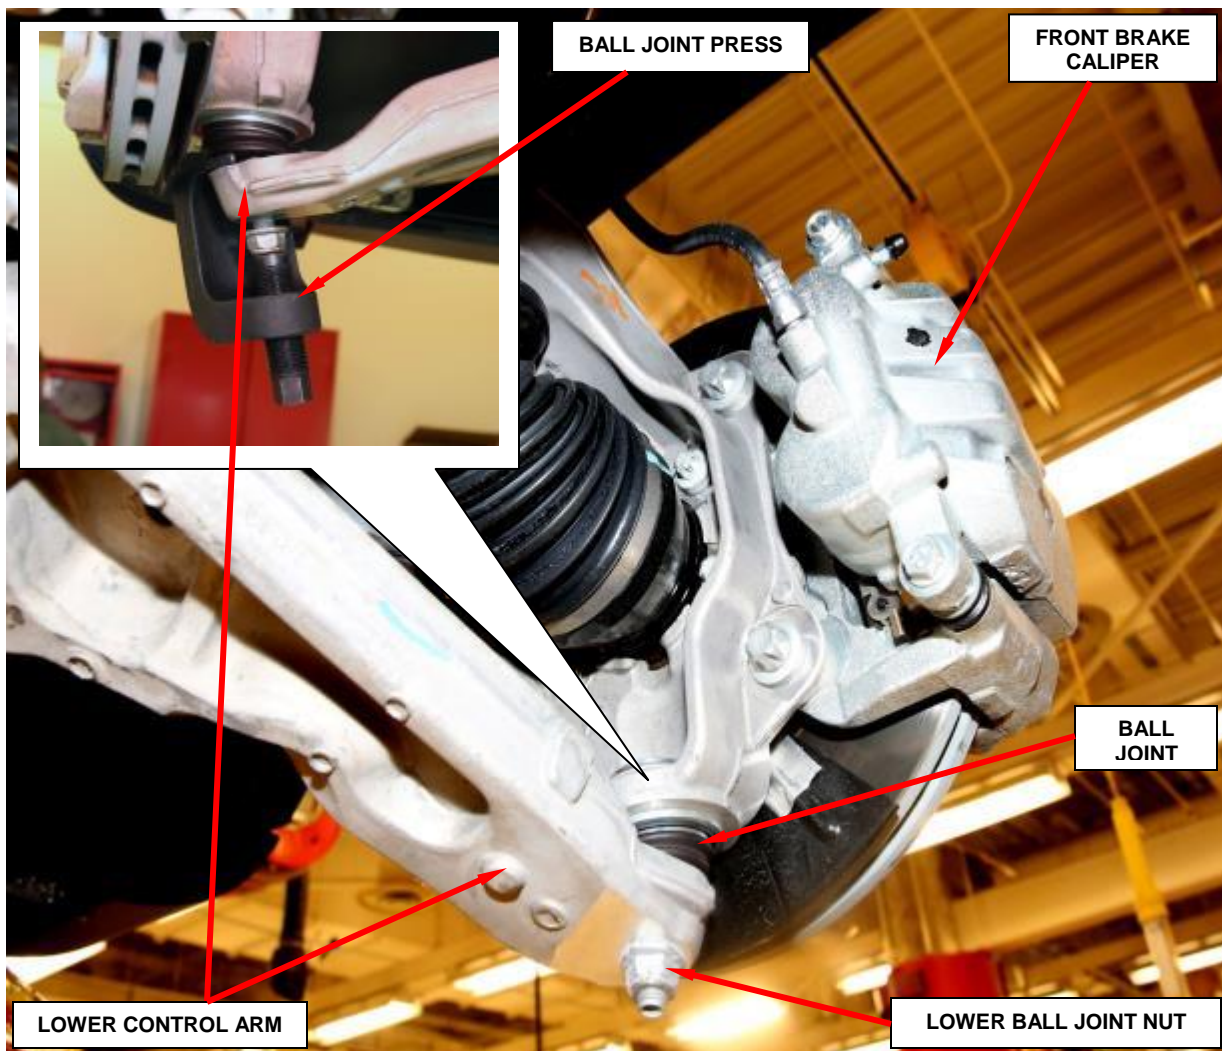

Figure 3 – Lower Ball Joint
6. Remove and **discard** the lower ball joint nut (Figure 3).
7. Using the Ball Joint Press C-4150A separate the ball joint stud from the lower control arm (Figure 3).
- Install a **NEW** lower ball joint to control arm nut and tighten to 18 ft. lbs. Plus 175° (25 N•m Plus 175°) (Figure 3).